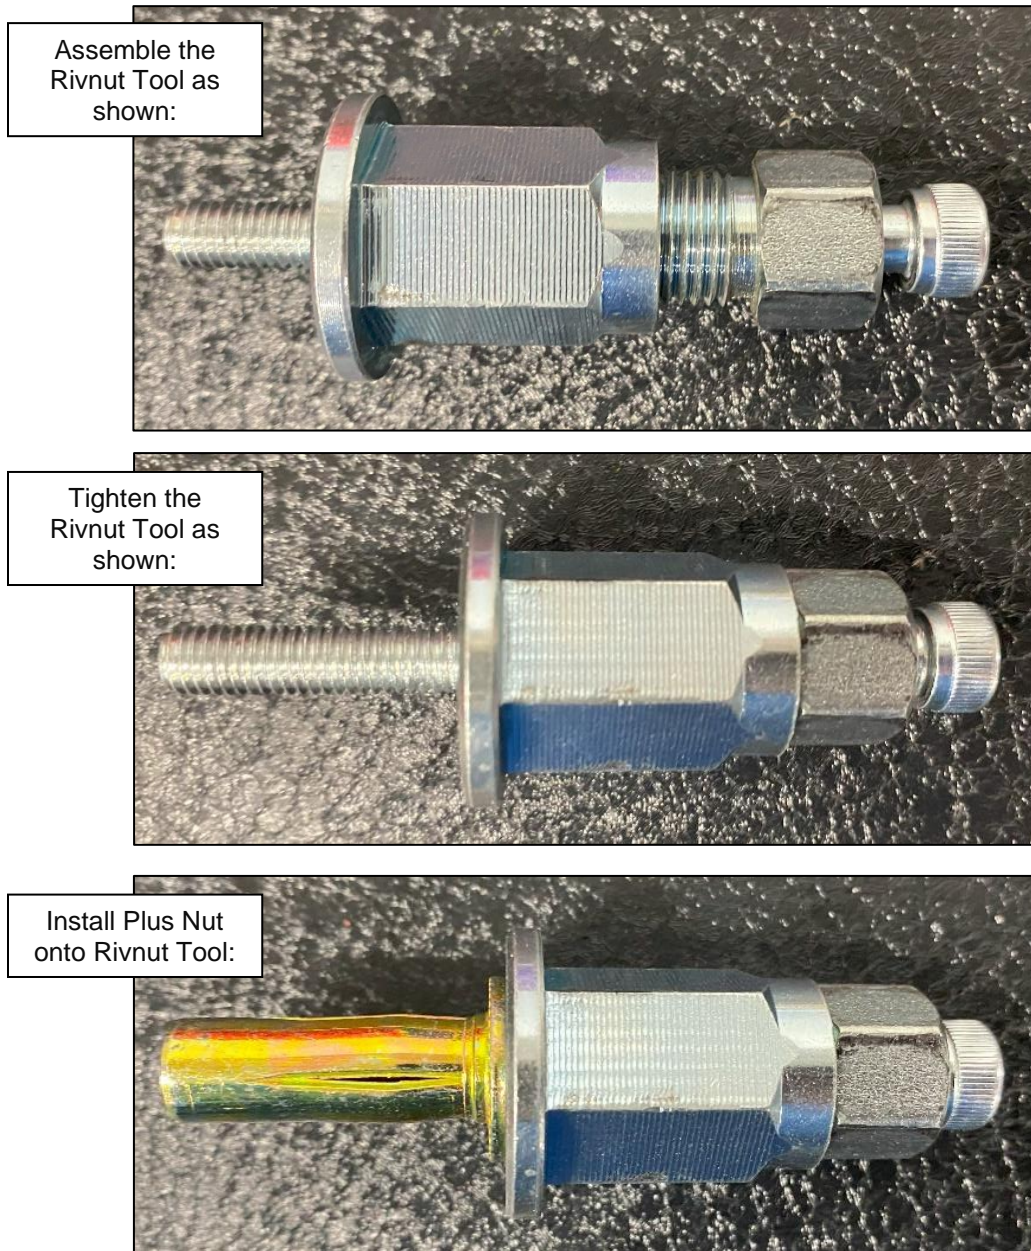
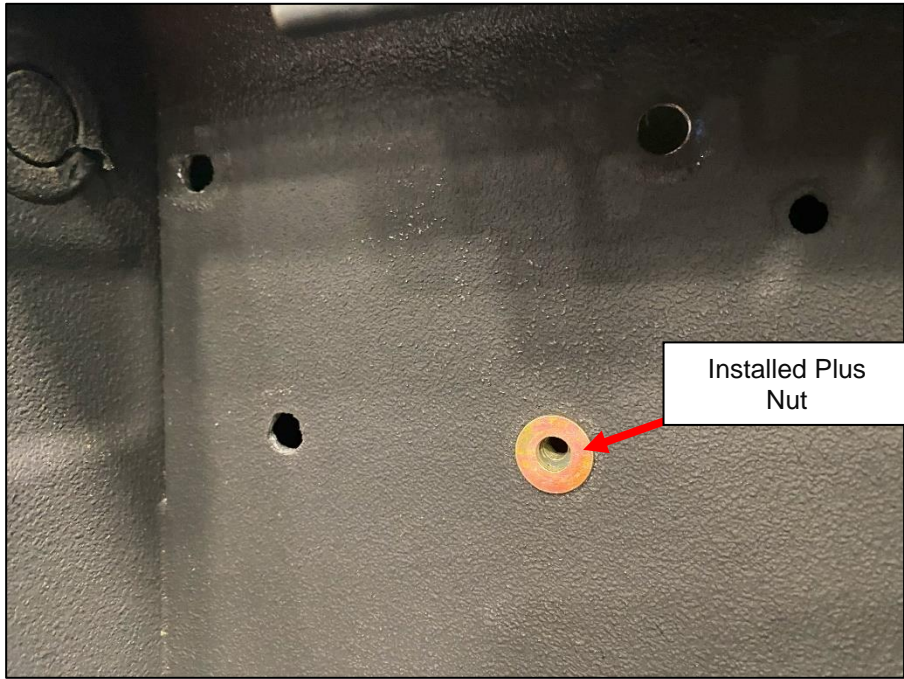

Figure 13
Figure 14
16. Locate the M6 Rivnut Tool and (16) sixteen Plus Nuts. Install (1) one Plus Nut into each hole drilled in *Step 14. Figure 13* and *Figure 14*. If you have a Plus Nut Installation tool, it can be used, as this will speed up the process of this Step.